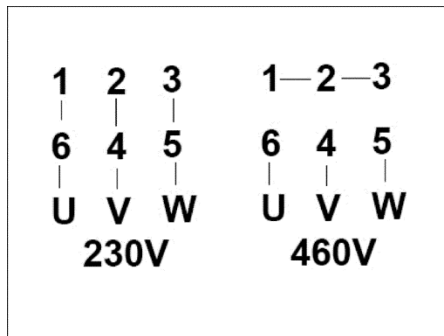

Figure 6-3: coolant pump wiring
3. Remove coolant pump motor junction box cover, and change incoming leads for coolant pump, based on diagram shown in Figure 6-3. Reinstall cover.